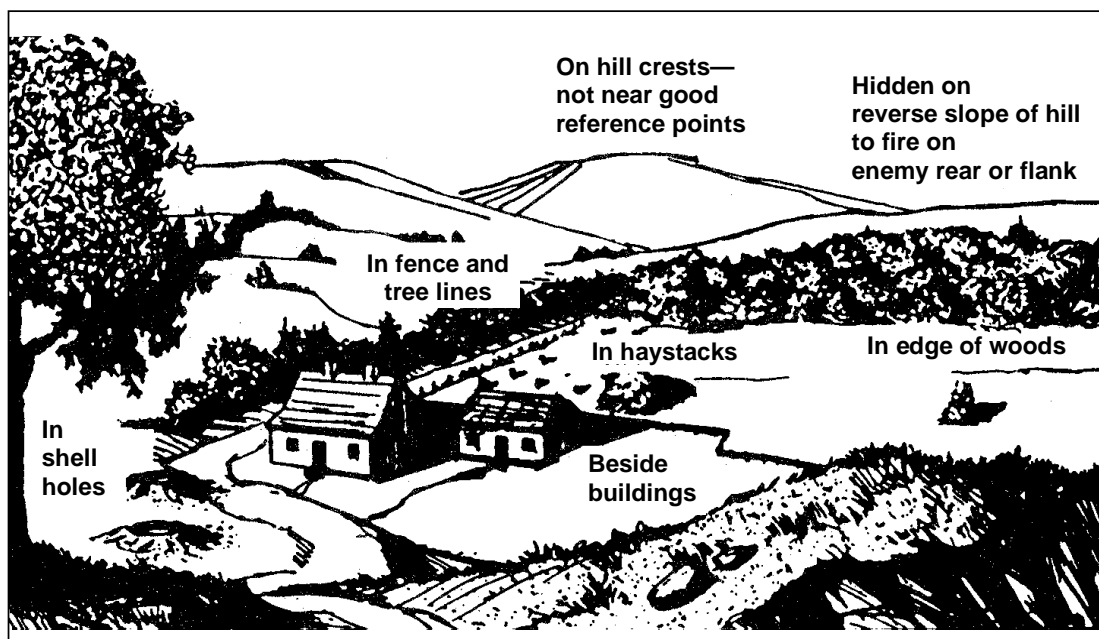

Figure 4. Avoid conspicuous terrain features.
3. Avoid conspicuous terrain features. Use terrain to the best advantage. Every piece of terrain has features that can enhance or degrade TOW mission accomplishment. Conspicuous terrain features, such as road junctions, hilltops, and lone buildings or trees, attract the enemy's attention. Also, the enemy may have registered their weapons on them. As a leader, you must recognize key terrain features that can increase the TOW's chances for success and lessen its vulnerability to detection (Figure 4).